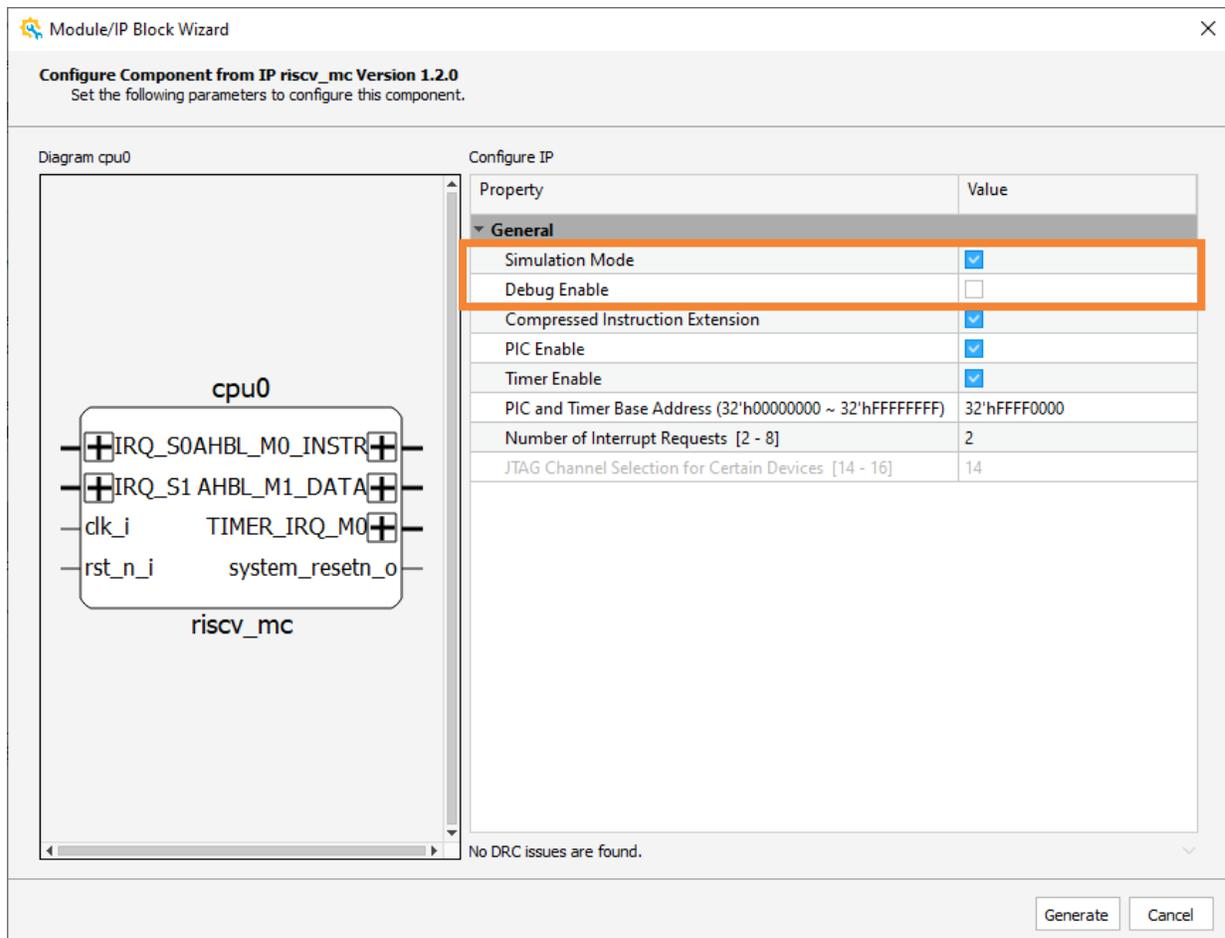

Figure 3.28. Configure Module RISC-V MC
- Enable the checkbox for **Simulation Mode**, and disable the checkbox for **Debug Enable** for RISC-V MC IP module in the **General** area (Figure 3.28).